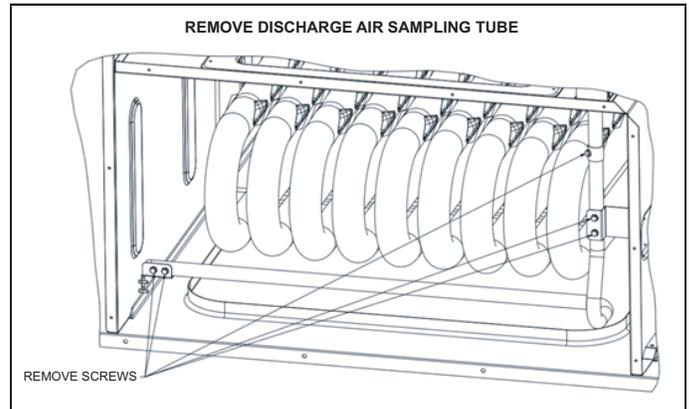

FIGURE 2
- 3 - If unit has Modulating Gas Heating (Heating Code on Nameplate P, K or R), remove Discharge Air Sampling tube by removing 5 screws outlined in FIGURE 2.